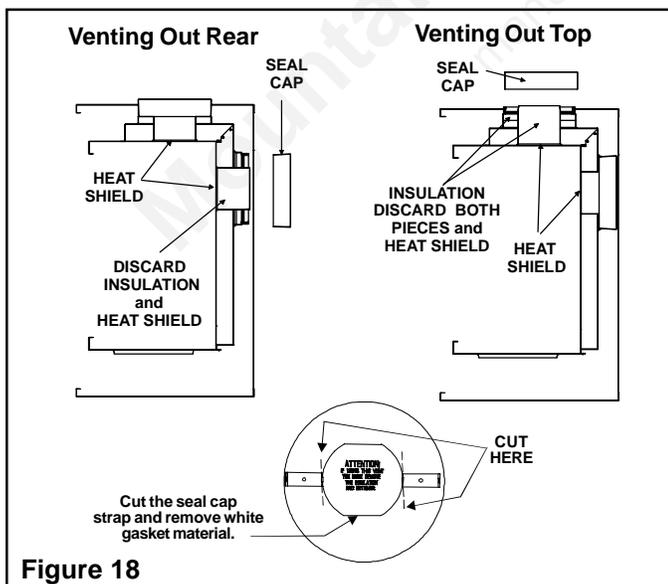

Figure 18
Remove the installed rear seal cap from the rear starting collars by cutting the strap at each end. (see Figure 18). Follow the vent configuration tables accordingly.
**WARNING: THE TOP HEAT SHIELD (INSIDE THE FIREBOX) MUST REMAIN ATTACHED IF THE VENT SYSTEM IS ATTACHED TO THE REAR STARTING COLLARS. SEE FIGURE 18.**
Remove the two screws in the top vent collar seal cap and remove the top vent collar seal cap and two pieces of insulation inside the top two starting collars (See Figure 18).